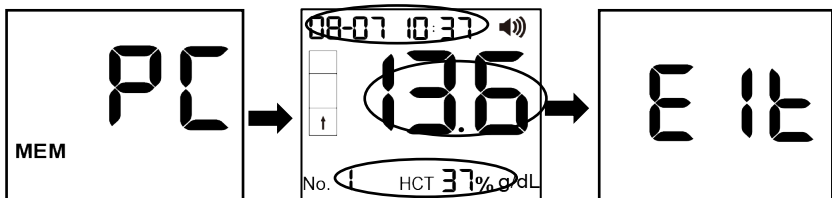

Fig. 20
- Press  button to enter this mode. (Ref Fig. 20)